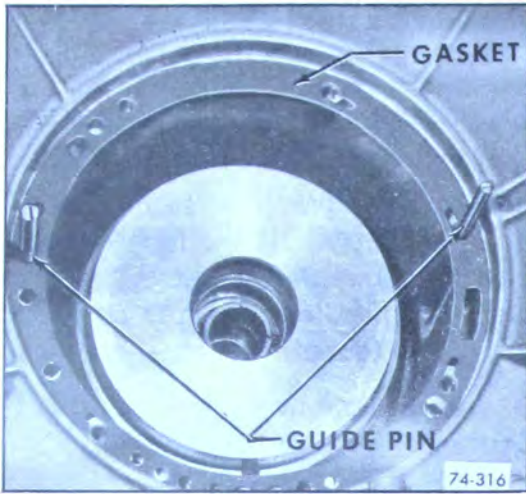

Figure 74-316
1. Install guide pins into case. See Figure 74-316.
2. Install guide pins and new pump gasket. See Figure 74-316.